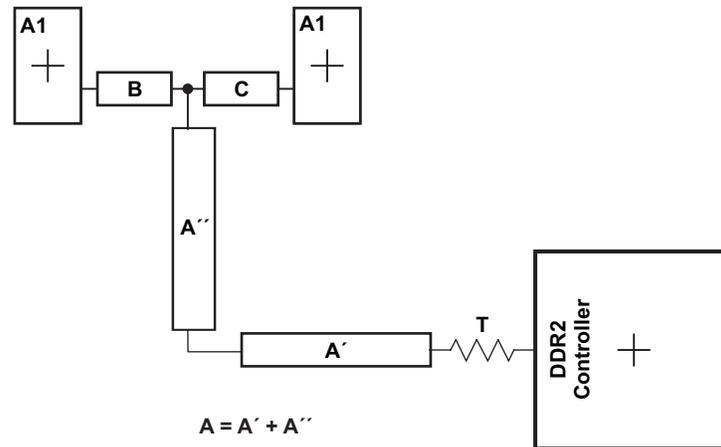

Figure 8-53. CK and ADDR_CTRL Routing and Topology
Figure 8-53 shows the topology of the routing for the CK and ADDR_CTRL net classes. The route is a balanced T as it is intended that the length of segments B and C be equal. In addition, the length of A ($A'+A''$) should be maximized.
(1) The length of segment A = A' + A'' as shown in Figure 8-53.
(2) Series terminator, if used, should be located closest to the device.
(3) Center-to-center spacing is allowed to fall to minimum (2w) for up to 500 mils of routed length to accommodate BGA escape and routing congestion.
(4) CACLM is the longest Manhattan distance of the CK and ADDR_CTRL net classes.